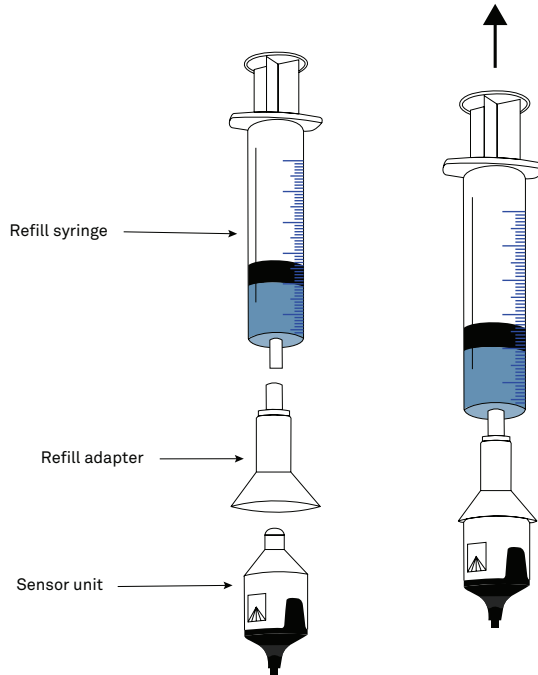

Figure 3 Connect refill syringe to TEROS 31 refill adapter
7. Connect the syringe to the sensor unit adapter (Figure 3).